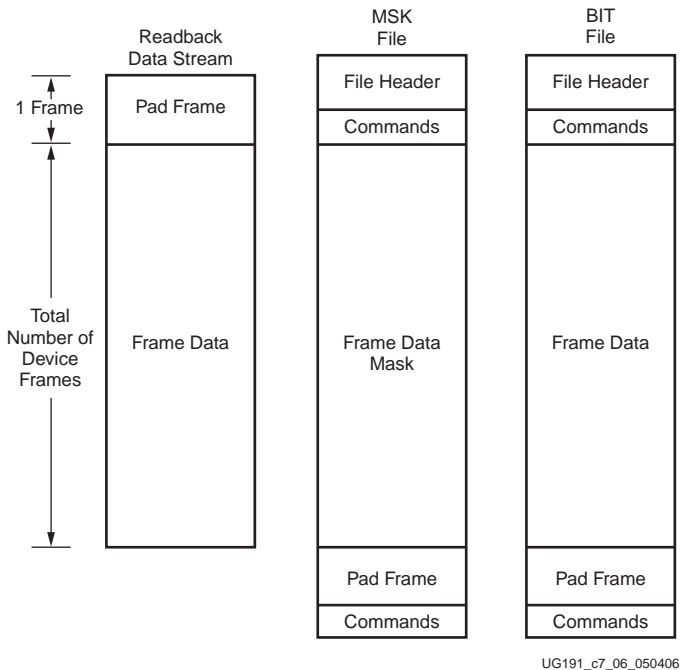

Figure 7-6: Comparing Readback Data Using the MSK and BIT Files
2. Compare readback data to the configuration BIT file, mask using the MSK file (see Figure 7-6).